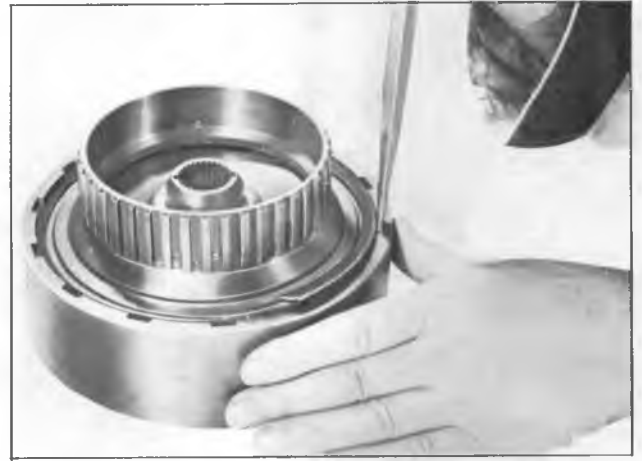

Figure 63—Removing Direct Clutch Hub Snap Ring
1. Place forward clutch and turbine shaft in hole in bench or holding fixture (J-6116-01), and remove forward clutch housing to direct clutch hub snap ring (fig. 63).
10. Install direct clutch hub and retaining snap ring (fig. 63).